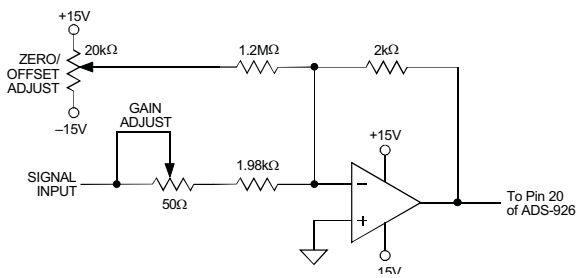

Figure 2. ADS-926 Calibration Circuit
Bypass all power supplies and the REFERENCE OUTPUT (pin 21) to ground with 4.7µF tantalum capacitors in parallel with 0.1µF ceramic capacitors. Locate the bypass capacitors as close to the unit as possible. If the user-installed offset and gain adjusting circuit shown in Figure 2 is used, also locate it as close to the ADS-926 as possible.
can be reduced to zero using the input circuit of Figure 2. When using this circuit, or any similar offset and gain-calibration hardware, make adjustments following warmup. To avoid interaction, always adjust offset before gain.
**CALIBRATION PROCEDURE (Refer to Figures 2 and 3)**
Any offset and/or gain calibration procedures should not be implemented until devices are fully warmed up. To avoid interaction, offset must be adjusted before gain. The ranges of adjustment for the circuit of Figure 2 are guaranteed to compensate for the ADS-926's initial accuracy errors and may not be able to compensate for additional system errors.
All fixed resistors in Figure 2 should be metal-film types, and multiterm potentiometers should have TCR's of 100ppm/°C or less to minimize drift with temperature.